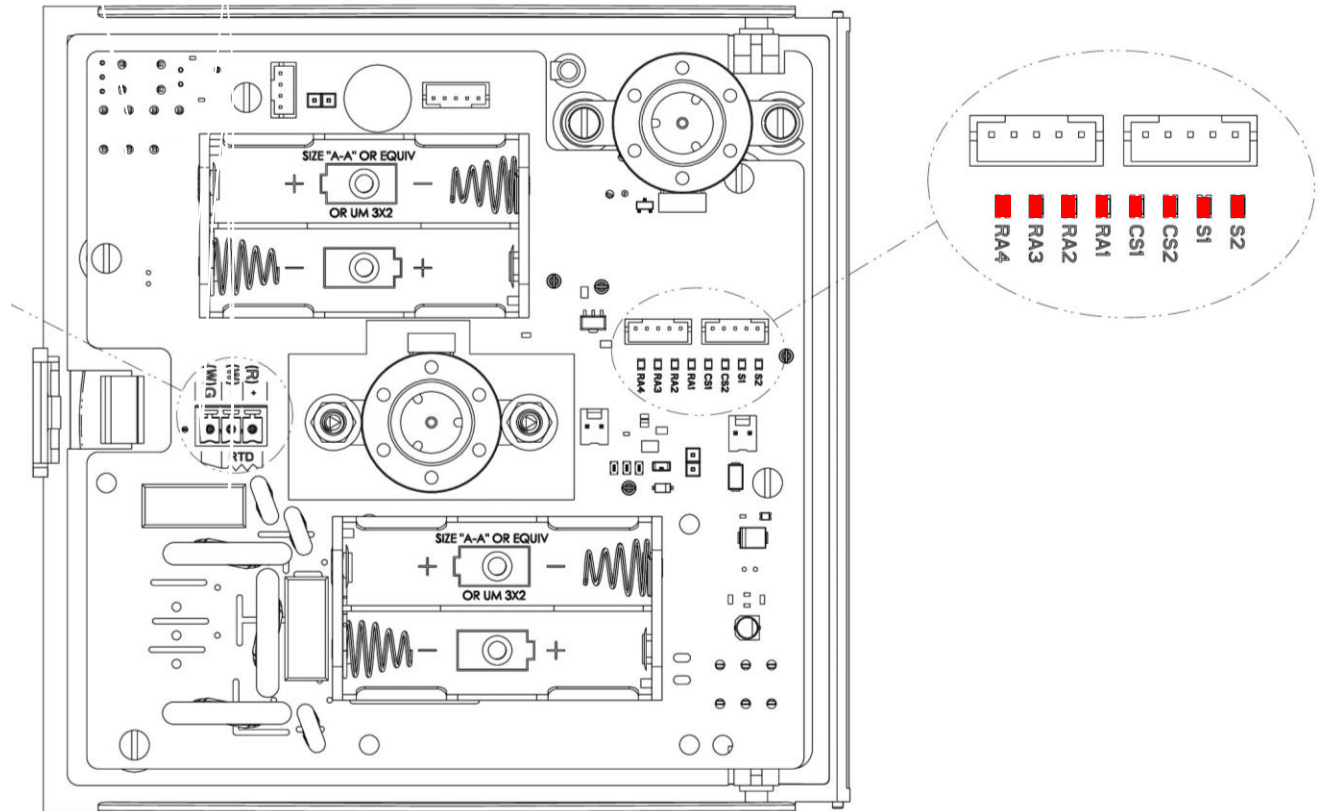

Figure 11 - Chart Parameters Settings LED Indication
- Locate the 8 LEDs on the top right corner – refer to figure 11.